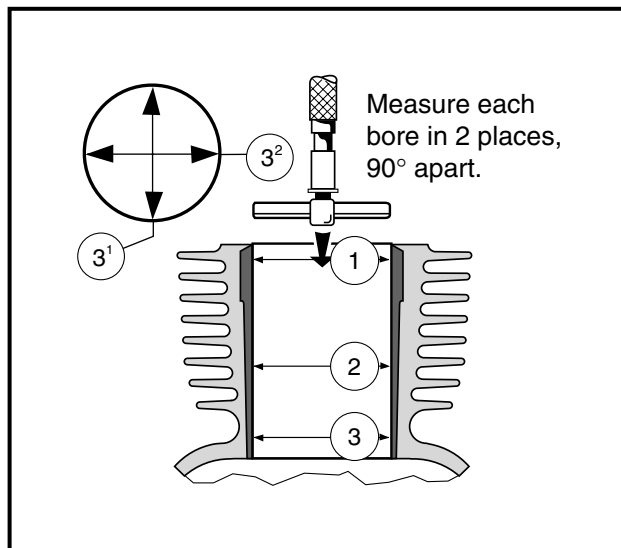

Figure 13-60 Measure Cylinder Bore
2. Make the first measurement parallel with the crankshaft and the second at right angles to the crankshaft at three different locations in the bore. The first measurement location is 0.4 inch (10 mm) from the top of the cylinder. The second location is in the center or 2.4 inches (60 mm) from the top, and the third location is 0.3 inch (8 mm) from the bottom of the cylinder or bottom of ring travel. **See locations 1, 2, and 3 (Figure 13-60, Page 13-30).**